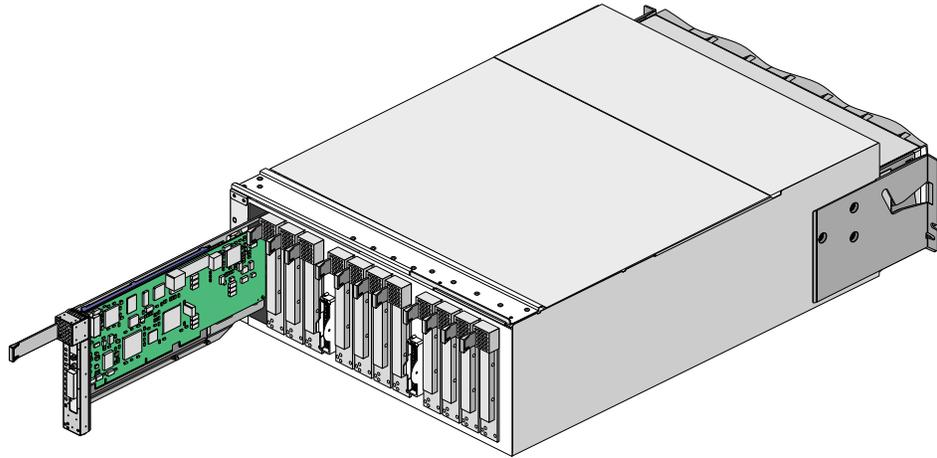

Figure 6-7 Installing a PCI Card in a PCI Slot
4. Insert the PCI carrier carrying the PCI card horizontally into the vacant slot, using the slot guides, as shown in Figure 6-7.